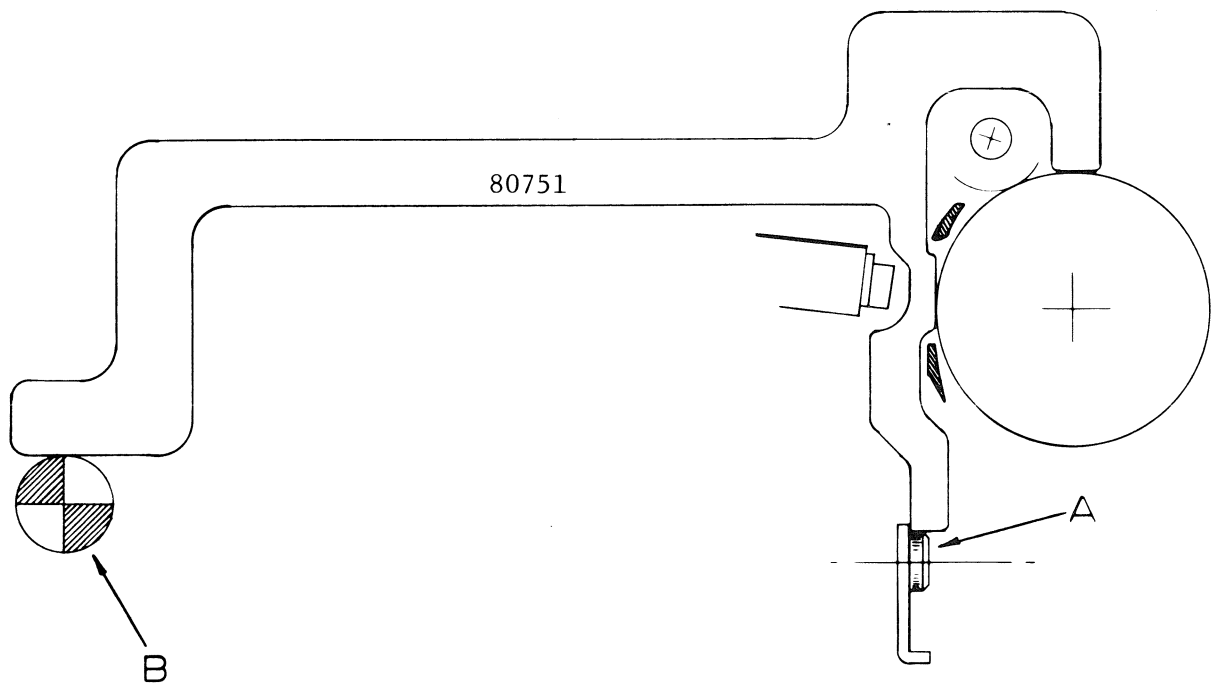
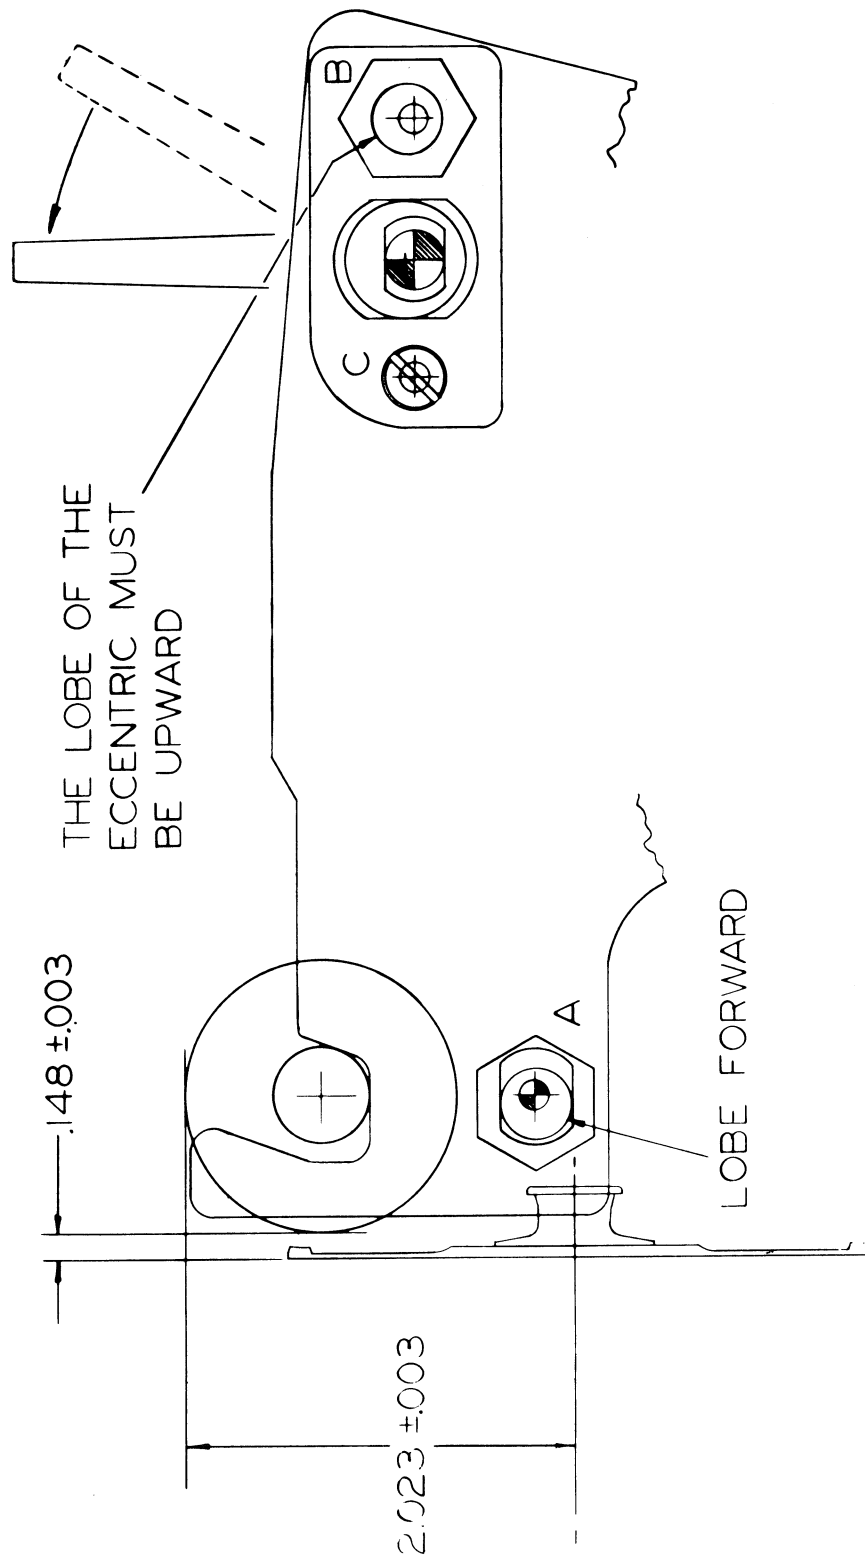

FIGURE 7-4
FIGURE 7-5
The middle section of the printer's cover must be removed for access to this adjustment. Tools required include a screwdriver, a 5/8" open-end wrench, and the alignment gauge, #80751 shown in Figure 7-4.
- (1) Place the forms thickness selector lever in its extreme forward position.
- (2) Refer to Figure 7-5 which shows the right platen carrier side plate. Loosen the two screws (B) and (C) which secure the depth adjustment.
- (3) Position the alignment gauge #80751 on the right side of the printer, as shown in Figure 7-4. The gauge rests on the printwheel hub (A) and on the forward carriage guide rail (B) and must be balanced or supported by hand. Try to keep the gauge approximately perpendicular to the platen's principal axis.
- (4) Use a 5/8" open-end wrench to rotate the eccentric anchor shown at (B) in Figure 7-5. Adjust this anchor so that the forward edge of the platen just touches the flattened vertical face on the alignment gauge (Figure 7-4).
This adjustment will normally be preceded by the platen depth adjustment just described. The printer's middle cover must be removed. The procedure calls for screwdriver, 5/8" open-end wrench, and the alignment gauge shown in Figure 7-4.
- (1) Refer to Figure 7-5, which shows the right side of the plate of the platen carrier. Loosen the screw (A) which secures the height adjustment.
- (2) Position the alignment gauge on the right side of the printer, as shown in Figure 7-4. The gauge rests on the printwheel hub (A) and on the forward carriage guide rail (B) and must be balanced or supported by hand. For the most accurate adjustment, try to keep the gauge perpendicular to the platen's principal axis.
- (3) Use a 5/8" open-end wrench to rotate the eccentric anchor shown at (A) in Figure 7-5. Adjust this anchor so that the upper edge of the platen just touches the horizontal face on the alignment gauge (Figure 7-4).
- (4) When you are sure that the adjustment is correct, tighten the retaining screw that was loosened in Step #1 above. This locks the anchor and completes the right side height adjustment.
- (5) Repeat Steps #1 through #4 on the left side of the machine.